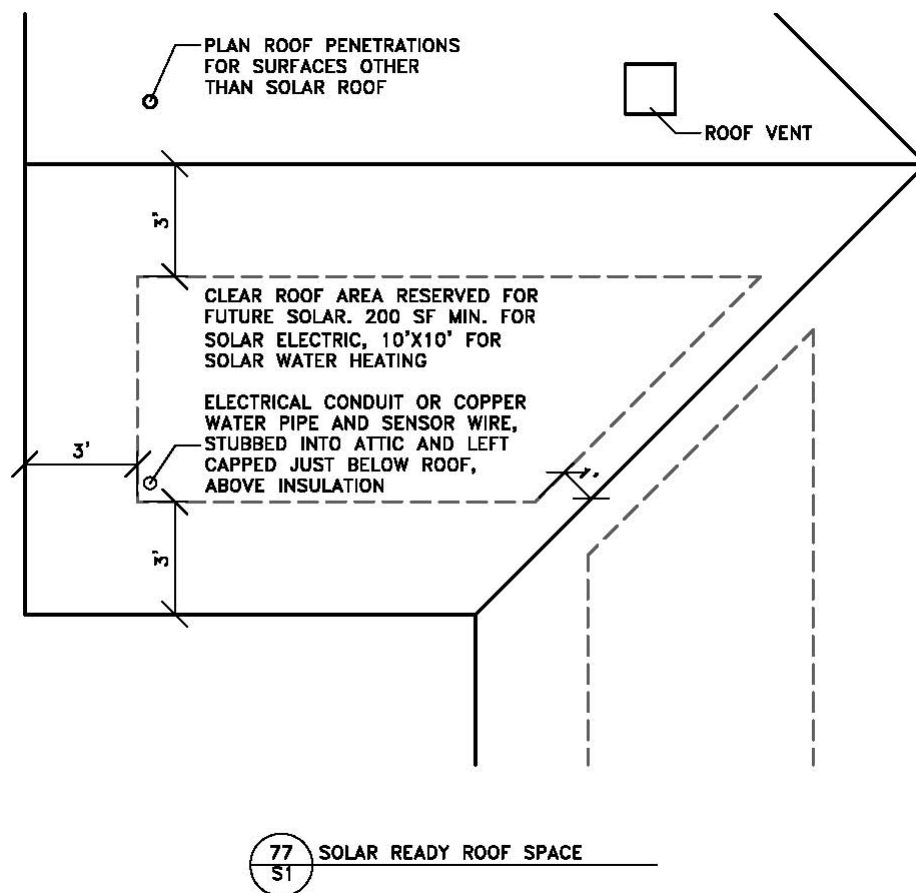

Figure 1. Sample Solar Roof Area Best Practices
- 1.9 Proposed future location on the roof of the solar modules or collectors (“System Location”) shall be included in the plan set or documented with a roof diagram that accurately describes the following: See Figure 1 below.